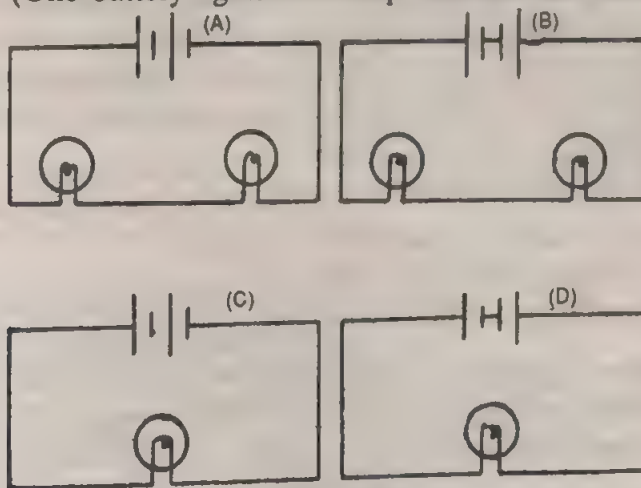

Fig. 9.24
25. Fig. 9.24(A) to (D) shows circuits containing similar lamps and similar batteries. Say for each circuit whether the lamps are normally bright, over-run, under-run or quite dark. (One battery lights one lamp with normal brilliancy).